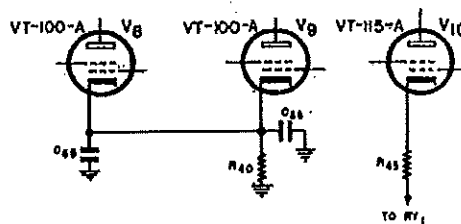

Fig. 21
- (2) See Fig. 21 for change in BC-669-B, and BC-669-C.
- (c) In BC-669-B, and BC-669-C an additional capacitor C_{58} is connected from V_8 cathode to ground as a bypass. Cathode bias resistor R_{40} is disconnected from R_{45} and grounded directly. (See Fig. 21.)